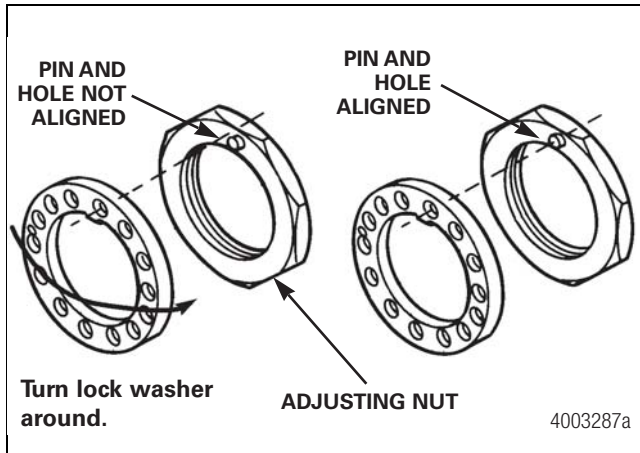

Figure 10.6
2. Completely loosen the nut, then tighten it to 50 lb-ft (68 N•m) while rotating the wheel end. ①
4. Install the lock washer. If the hole in the washer is not aligned with the adjusting nut pin, remove the washer, turn it around and reinstall. The pin and hole should now be aligned. If not, slightly adjust the parts to align them. Figure 10.6.